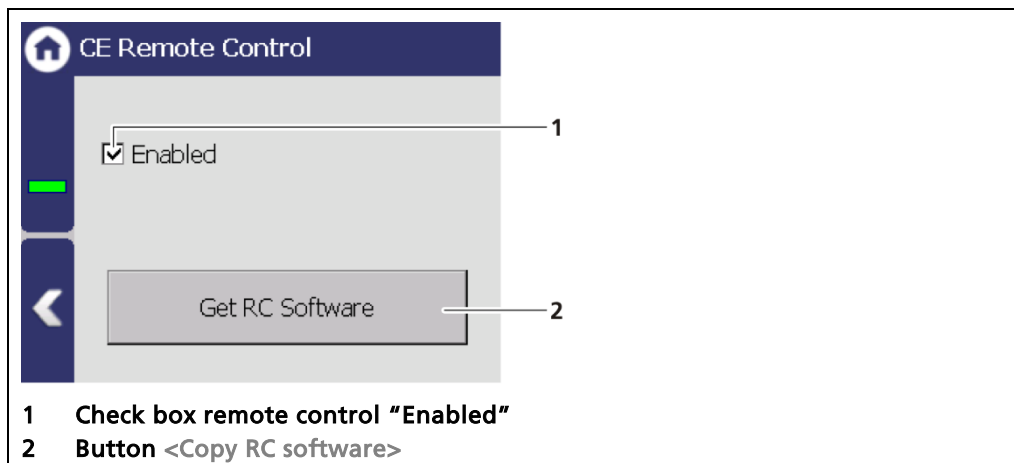

Fig. 49 CE Remote Control
By activating (Fig. 49, item 1) on the CE Remote Control, the EVU can be operated via the network connection. The software of the remote control (RC software) is stored on the device and can be copied to a USB storage device.
- ▶ The USB storage device is recognised by the system after a few seconds and the button <Get RC software> (Fig. 49, item 2) can be clicked.
2. Click on the button <Get RC software> (Fig. 49, item 2).
In order for the Remote Control to function, the selection check mark in the menu "CE Remote Control" must be set to "Active" (Fig. 49, item 1).